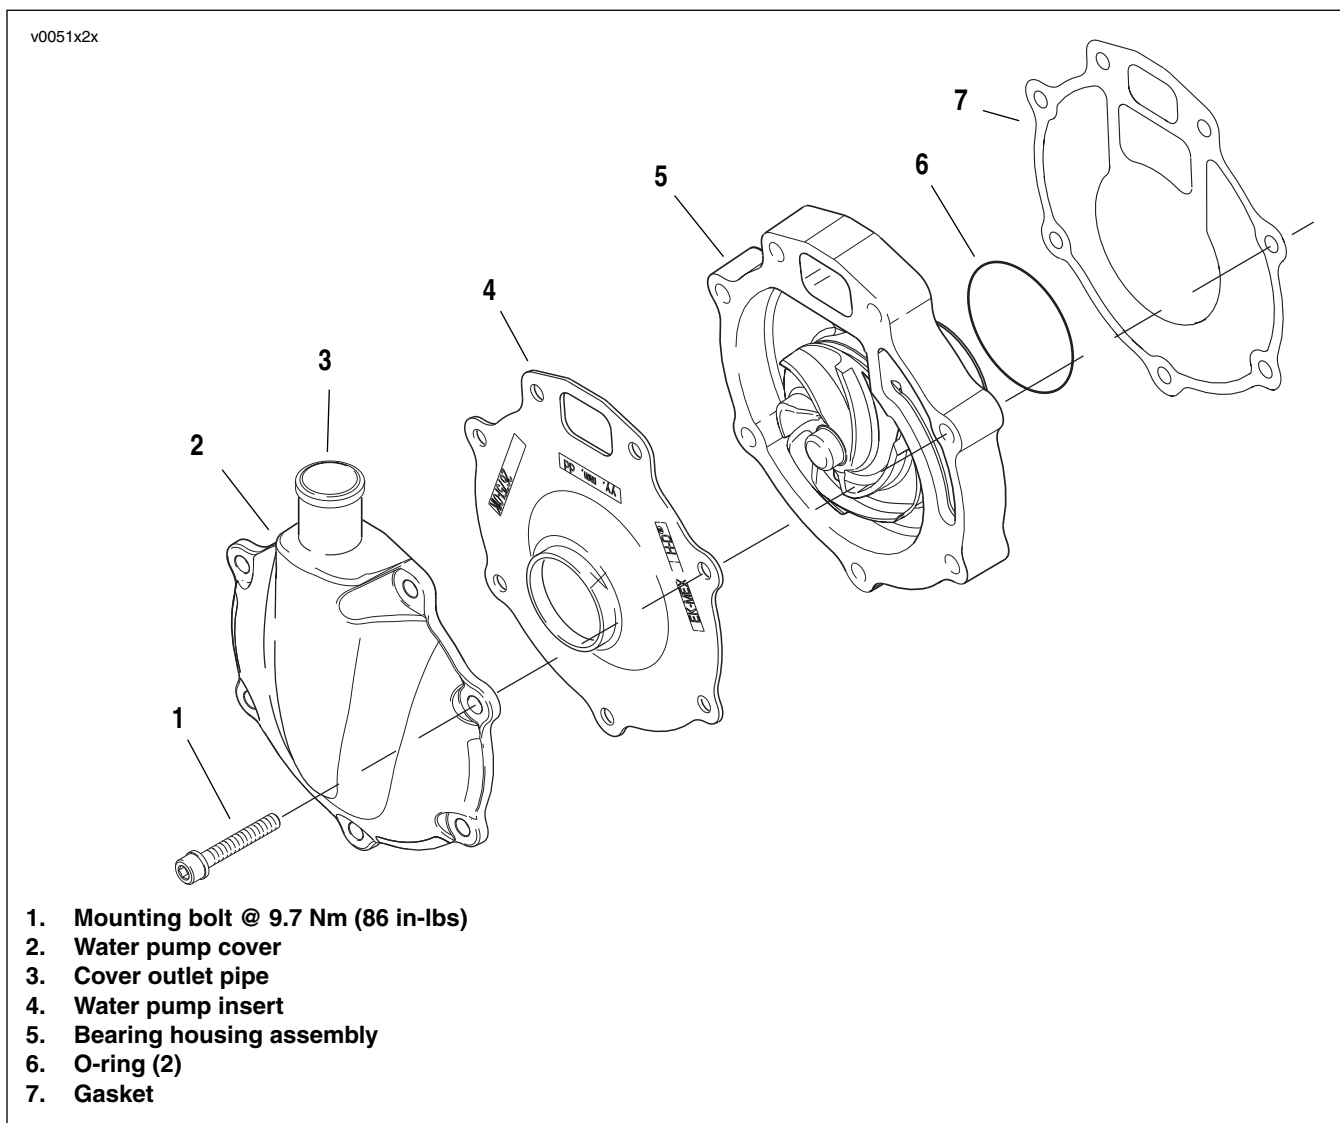

Figure 6-16. Water Pump
2. See Figure 6-16. Lube and install **new** O-ring (6) on bearing housing assembly (5).
3. Install **new** gasket (7) with part numbers facing away from engine block.